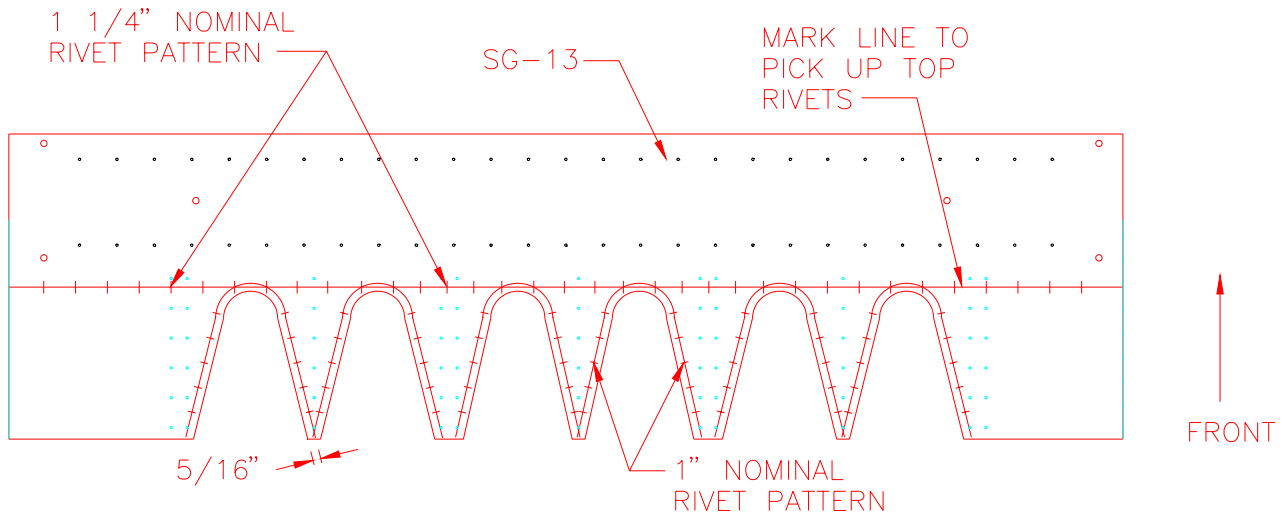

Figure 14.1.7
15) Measure and mark a line 5/16" out from the notch edges. Figure 14.1.7. Mark a 1" nominal rivet pattern. **NOTE:** If a new rivet is going to interfere with an existing channel rivet do not put the new rivet in.
16) Picking up the two top rivet marks on each  $2 \frac{1}{8}$ " hole, mark a line across SG-13 through these points. Use the intersection of the line on the tops of the cut holes as reference points. Mark a  $1 \frac{1}{4}$ " nominal spacing between each set of  $2 \frac{1}{8}$ " holes. From the two outer holes mark a  $1 \frac{1}{4}$ " nominal spacing to the outside edges of SG-13. Figure 14.1.7.